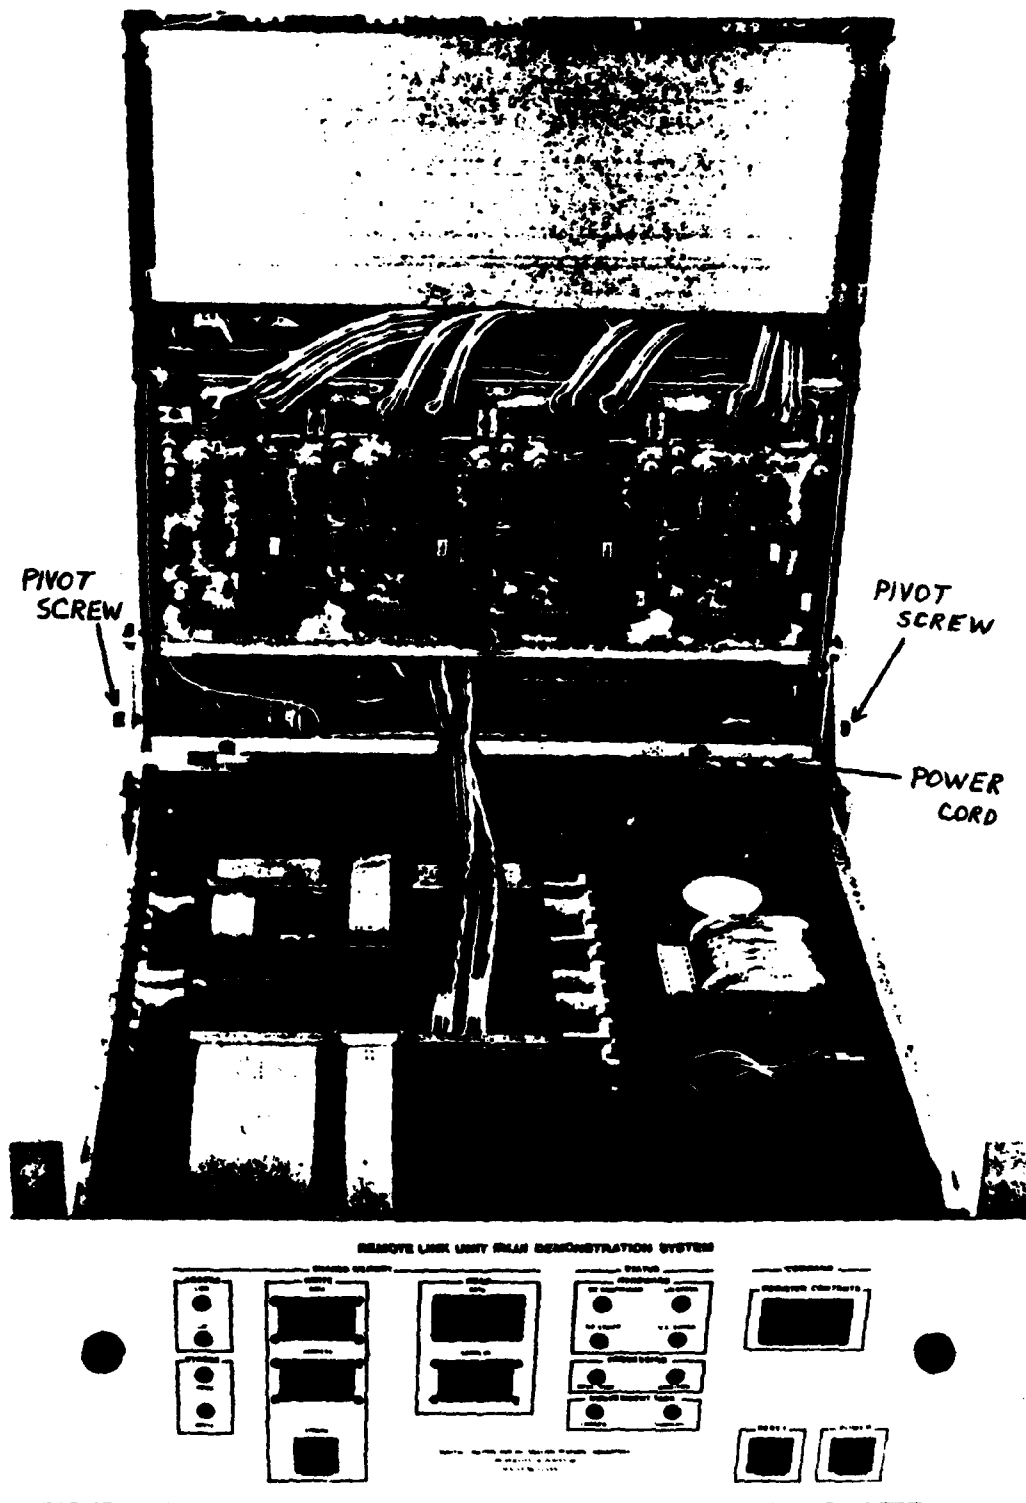

Figure 1 Connecting the ICA to the LM
The RLUDS is packed in foam in two large shipping boxes. Remove all items from the boxes and verify that none are missing. Before connecting any cables, it is necessary to install the ICA chassis on top of the LM chassis. To do so, first remove the top cover from the LM chassis and the bottom cover from the ICA chassis. Next, as shown in Figure 1, remove the two small pivot screws from the ICA chassis, align the ICA chassis with the LM chassis, and reinsert the two pivot screws. Connect the power cable at the rear of the LM chassis, and connect the double ribbon cable from the rear of the ICA chassis to the right edge connector on the ICA and Front Panel (FP) card in slot 1 of the LM. The ICA chassis should now swing down to rest just above the LM chassis.